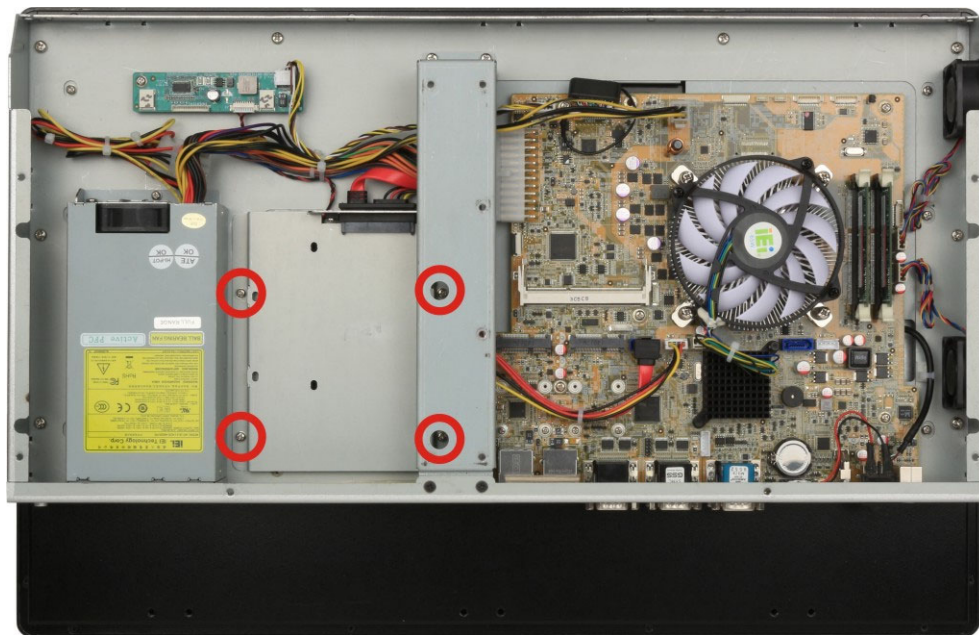

Figure 3-5: PPC-F22A/F24A-H81 HDD Bracket Retention Screws
Step 2: Remove the HDD bracket from the PPC-F22A/F24A-H81. The HDD bracket is secured on the panel PC with four retention screws (Figure 3-5). Remove the four retention screws and lift the bracket off the panel PC.
- Step 2:** Remove the HDD bracket from the PPC-F22A/F24A-H81. The HDD bracket is secured on the panel PC with four retention screws (Figure 3-5). Remove the four retention screws and lift the bracket off the panel PC.